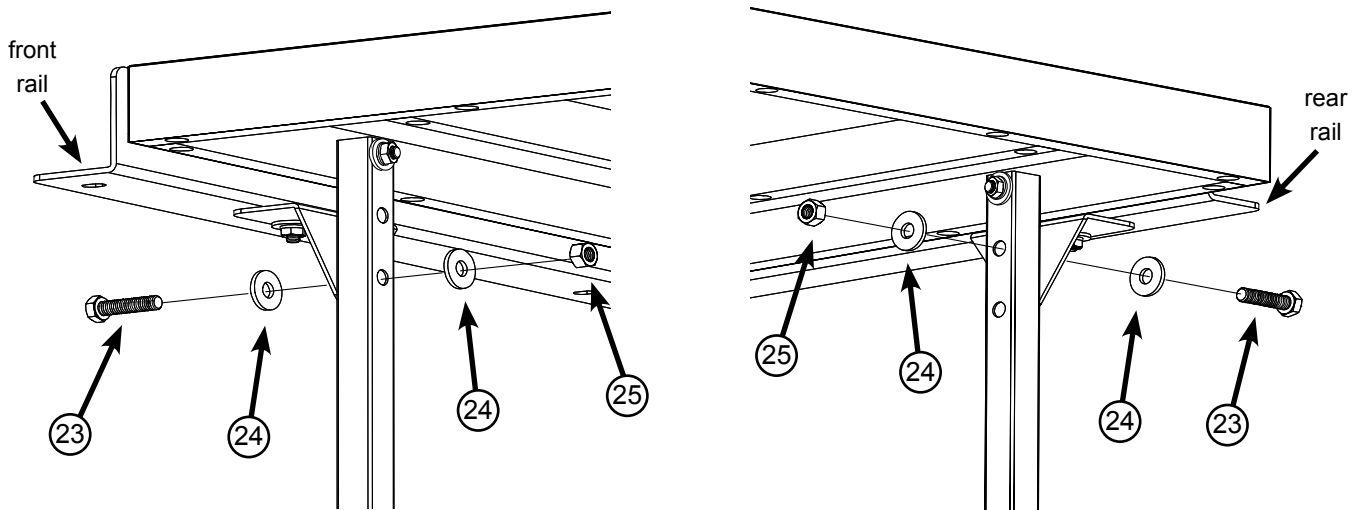

Fig. 13
13. Attach each support leg to the corresponding leg support bracket with an M10 x 40 hex head bolt, two M10 washers, and an M10 lock nut, as shown in Fig. 13, and fully tighten the bolts using two 17 mm wrenches. Note that the leg support brackets align with different holes in the front and rear legs because the brackets are at different elevations.